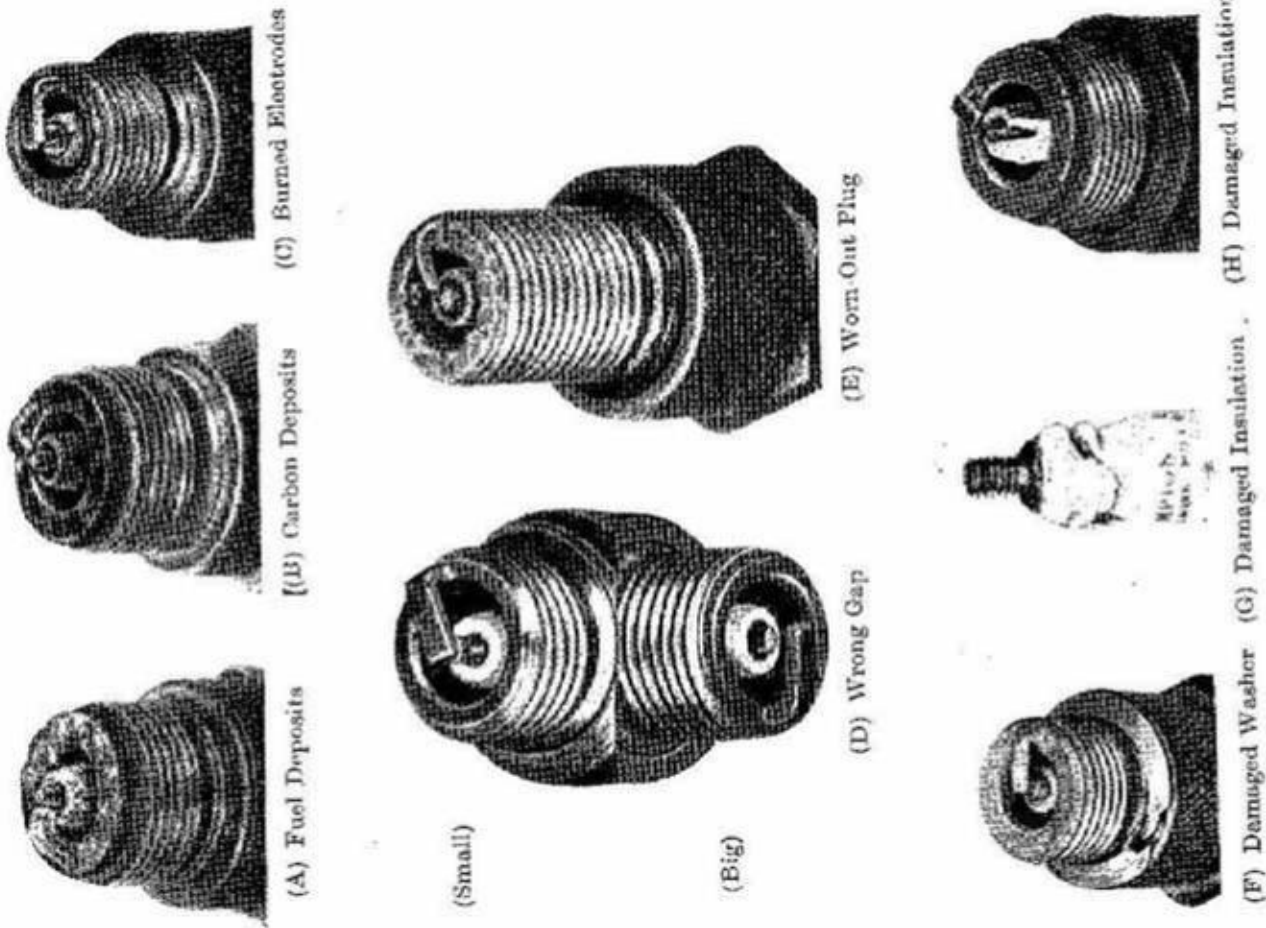

FIG. 32. LOOK FOR THESE FAULTS WHEN INSPECTING THE PLUG
2. Fuel Deposits. During inspection of the plug, light-coloured fuel deposits of the type shown at *A* in Fig. 32 may be noticed. If you have been running on an "anti-knocking" fuel containing "lead" (not advised), the fuel deposits may be *yellowish* in colour. All fuel deposits are harmless unless accompanied by oiling-up or a generally bad condition of the plug. They should, however, be removed by thorough cleaning.
3. Carbon Deposits. Examine the plug carefully for carbon deposits, as these are likely to interfere with the correct functioning of the plug. Such deposits, where due to fouling by the mixture in the combustion chamber, are *dull black* and sooty as shown at *B* in Fig. 32, but where caused by oil fouling they are *shiny black*, hard and often wet. A combination may occur. Slight carbon deposits are found on most plugs at inspection, and they should be removed by cleaning the plug thoroughly.
4. Burned Electrodes. Inspect the electrodes of the plug. These may be in a badly burned condition as shown at *C* in Fig. 32. If they are, it is generally necessary to scrap the plug and fit a good heat-resisting plug of the type suited to the engine (see page 54).
as they are correctly termed). A wrong gap as shown at *D* in Fig. 32 is detrimental to easy starting and good slow-running, and is likely to cause misfiring and indifferent general performance.
6. Worn-out Plug. If the inspection of the plug shows it to be in the condition illustrated at *E* in Fig. 32, put it in the nearest dustbin, not in the cylinder head! Fit a new plug of good make and of the correct type (see page 54). A plug may be regarded as worn-out when carbon deposits have burned into the insulator surface and have crusted the inside of the plug body.
7. Damaged Washer. Inspect the condition of the small copper washer fitted between the plug body and the cylinder head. This washer must be perfect, as it is responsible for maintaining compression. If there are any signs of "blowing" or if the washer is in the condition shown at *F* in Fig. 32, renew it forthwith.
Two typical examples of damaged insulation are shown in Fig. 32. That shown at *G* has been caused by careless application of a spanner during plug removal. It can be prevented by using only the box spanner shown at *H* in Fig. 54 when removing and fitting the plug. The type of damage shown at *H* can be caused by excessive overheating of the engine, or by making an attempt to bend the centre electrode instead of the outer electrode when re-gapping the sparking plug. Make sure that the plug insulation is quite clean, or shorting may occur. Also see that the plug terminal is secure when the plug is fitted.
If the plug gap is found to be incorrect, re-gap the plug *after* cleaning the plug and its electrodes (see page 60). When re-gapping the plug, be sure to *press* (not knock) inwards the *outer* electrode(s). On no account attempt to bend the centre electrode, or its insulation may look like that shown at *H* in Fig. 32!